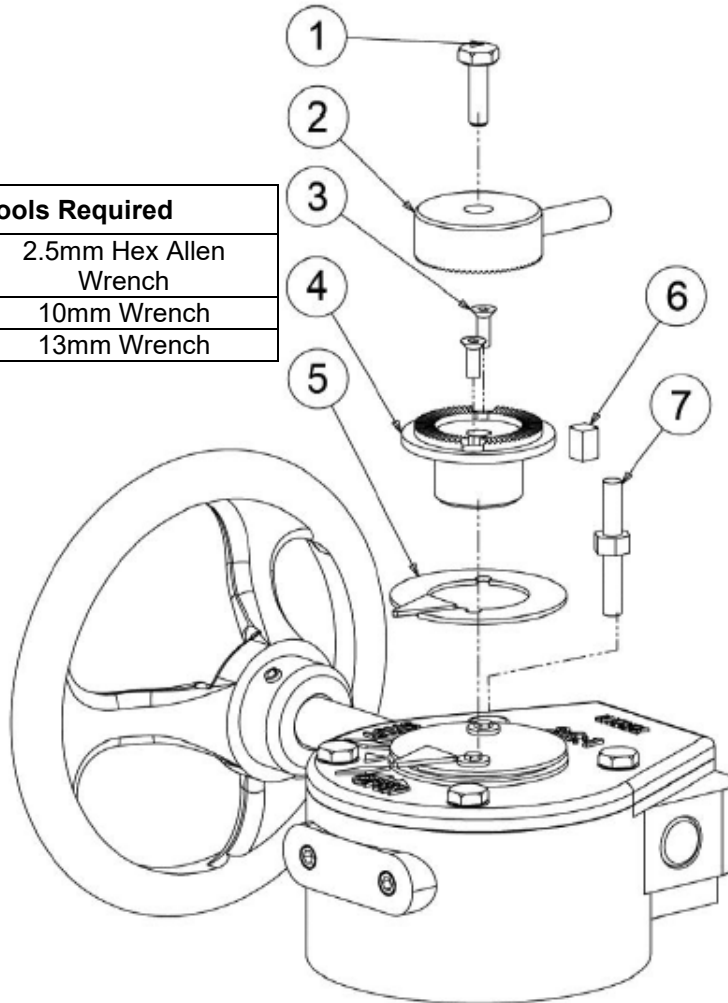

FIGURE 10
1. Remove the two screws holding the top cover (Indicator Pointer) onto segment gear. Discard cover and screws. See *Figure 10*.
2. Place indicator (5), supplied with kit, around bottom hub (4). Align key (6) on bottom hub with slot in segment gear and slide into place.
3. Attach with two supplied M4 x 12 flat head screws (3).
4. Remove one cap screw (1) holding cover onto gear operator housing and replace with stop pin (7).
5. Use cap screw (1) you just removed to secure the top hub (2) to the bottom hub (4). Top hub can be moved 360 degrees in 5 degree increments.
6. Tighten cap screw (1) once top hub is appropriately set.
- NOTE:** The gear operator provides a large mechanical advantage. Be careful to stop turning the handwheel when the pointer of top hub (2) contacts stop pin (7) to prevent damage.